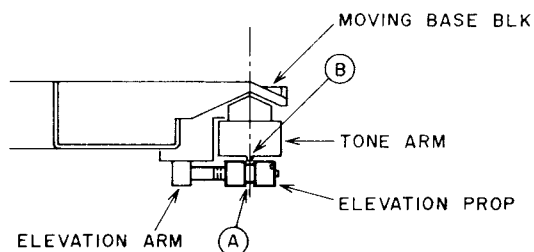

Fig. 4-1
- 2) Hold the Tonearm with the Moving Base Block and separate the Elevation Prop from the Tonearm. Then, bring the Elevation prop close to the Tonearm, and adjust the Elevation prop close to the Tonearm, and adjust the Elevation Prop with a flat type screwdriver to the place where the position of the notch (A) on the Elevation Prop coincides with the projection part (B) on the Tonearm as shown Fig. 4-1.